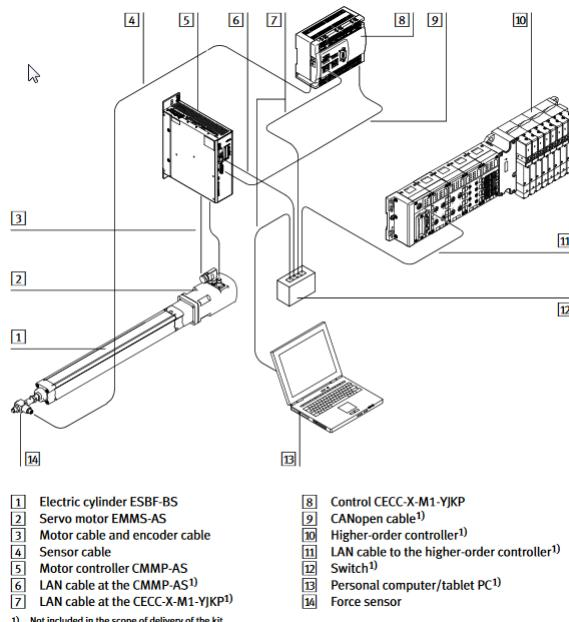

Figure 3-19: Connection overview
- The servo press kit must be connected like in the shown Figure 3-19: Connection overview.